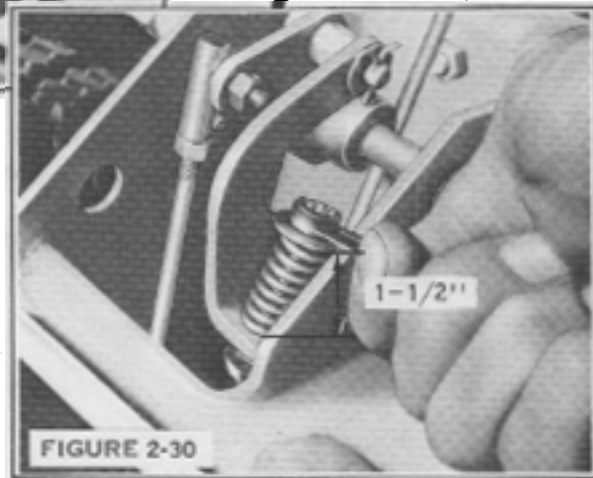

FIGURE 2-30
3. Tighten upper reverse booster spring nut until spring is compressed 1 1/2". See Figure 2-30.